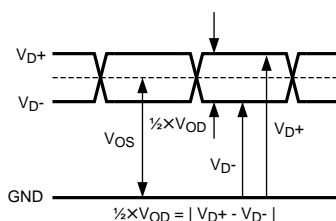

Figure 2. LVDS Output Signal Levels
**LVDS OUTPUT OFFSET VOLTAGE ( $V_{OS}$ )** is the midpoint between the D+ and D- pins output voltage with respect to ground; i.e.,  $[(V_{D+}) + (V_{D-})]/2$ . See Figure 2.